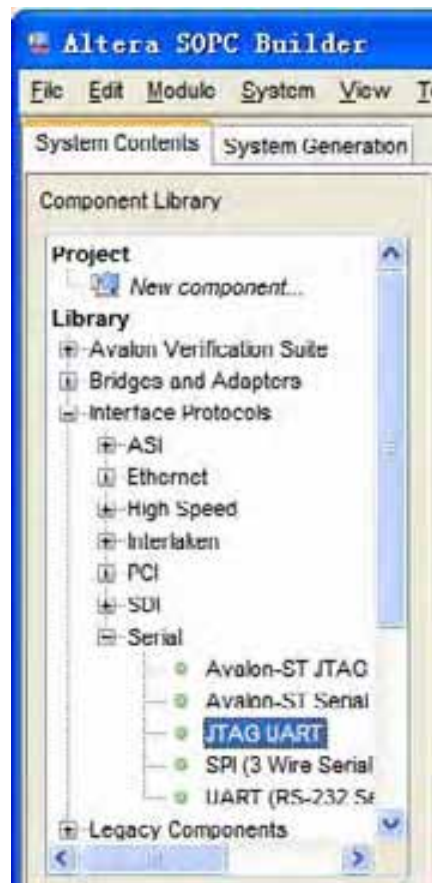
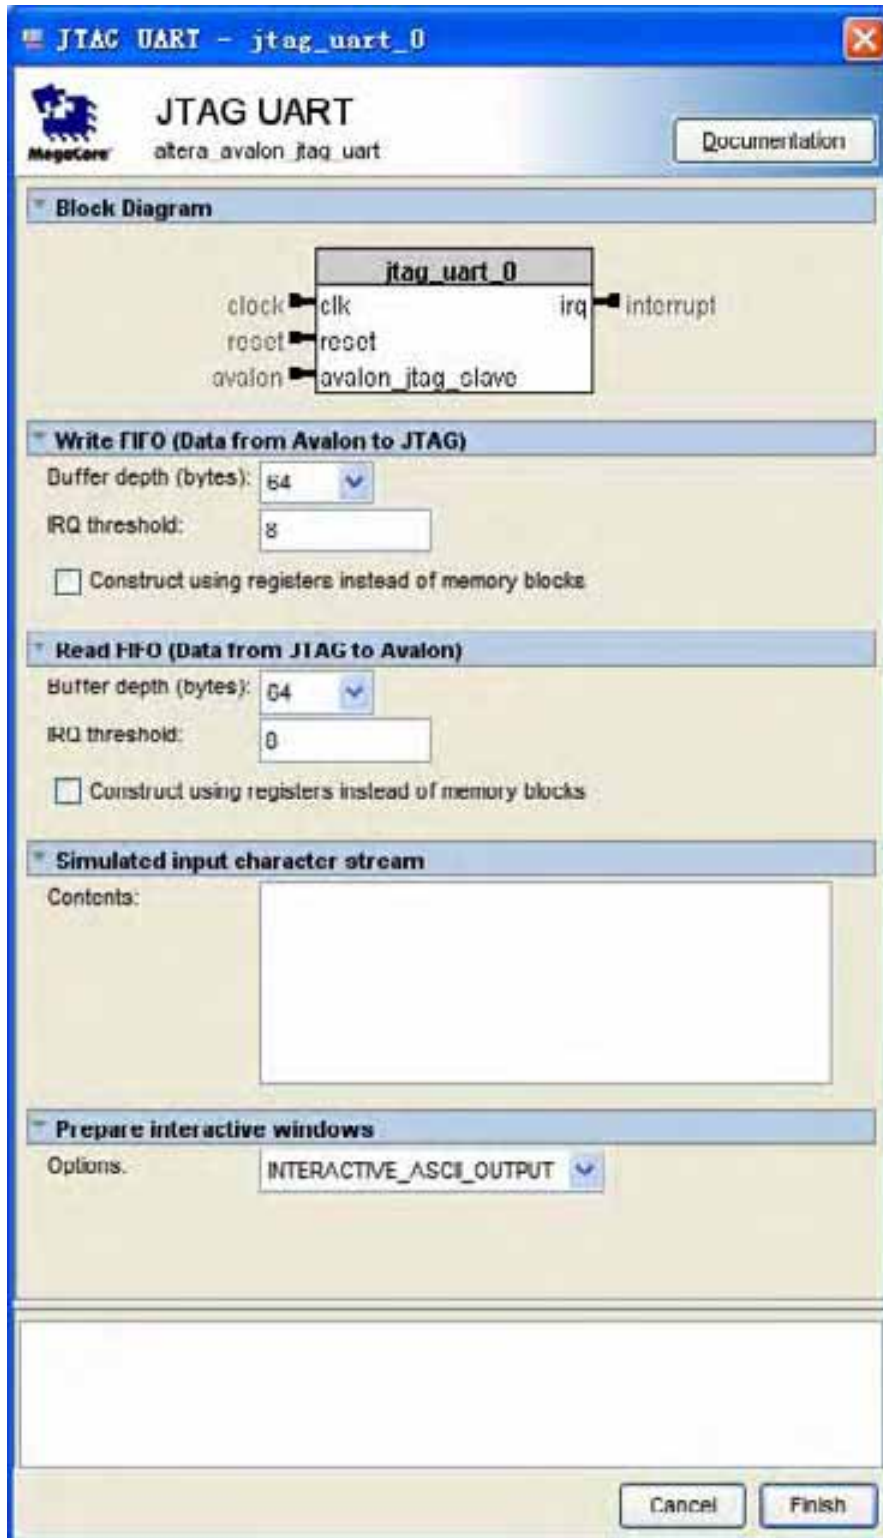

Figure 7-19 Add the JTAG UART component
Figure 7-20 JTAG UART's add wizard
11. Add a second component by selecting **Library > Interface Protocols > Serial > JTAG UART** and clicking the **Add...** button, as shown in **Figure 7-19** and **Figure 7-20**.